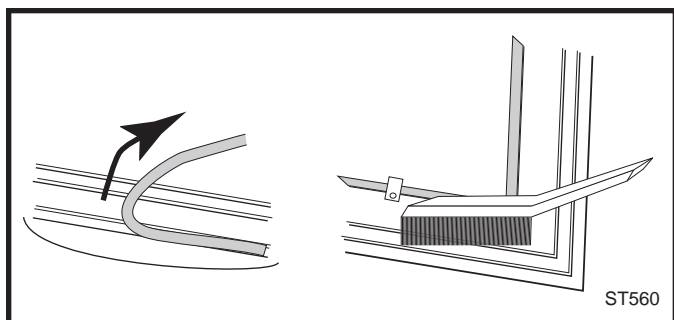

Fig. 34 Remove gasket then clean channel with wire brush.
1. Remove the existing gasket by grasping an end and pulling firmly. (Fig. 34)
2. Use a wire brush or the tip of a screwdriver to clean the channel of any remaining cement or bits of gasket. Remove stubborn deposits of cement with a cold chisel if necessary. (Fig. 34)